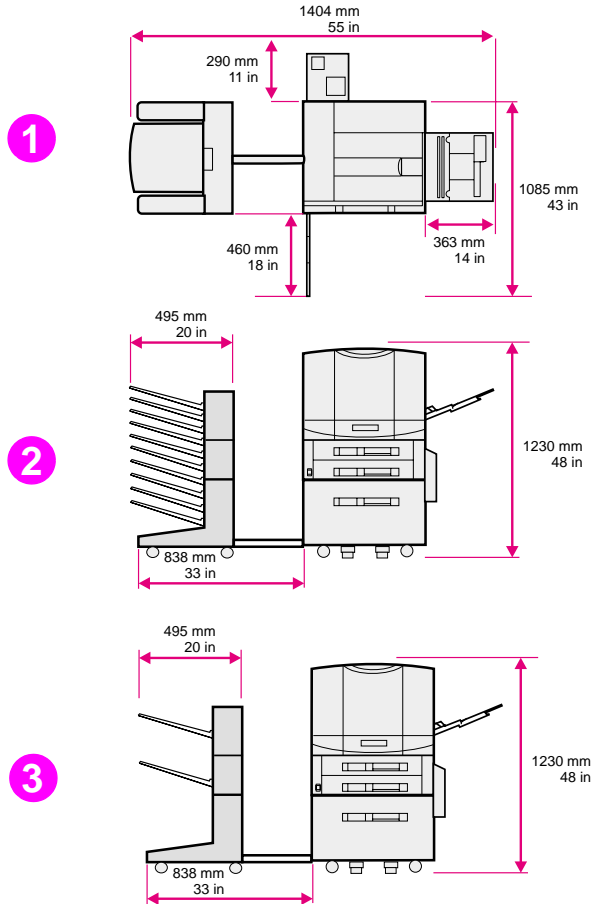

Figure 1.
- Install the printer away from walls or other objects. There must be enough space around the printer for proper access and ventilation (see figure 1 on page 28).